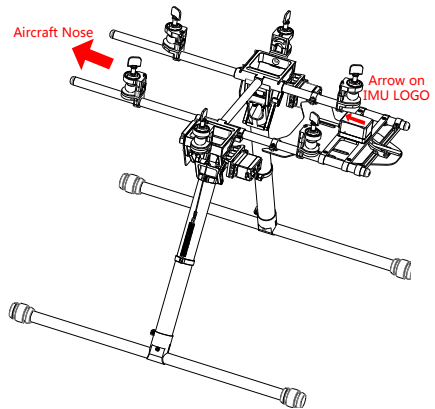

Fig.4
4. (Fig.4) Attach the IMU Module; make sure that the arrow on LOGO is pointing to the aircraft nose.